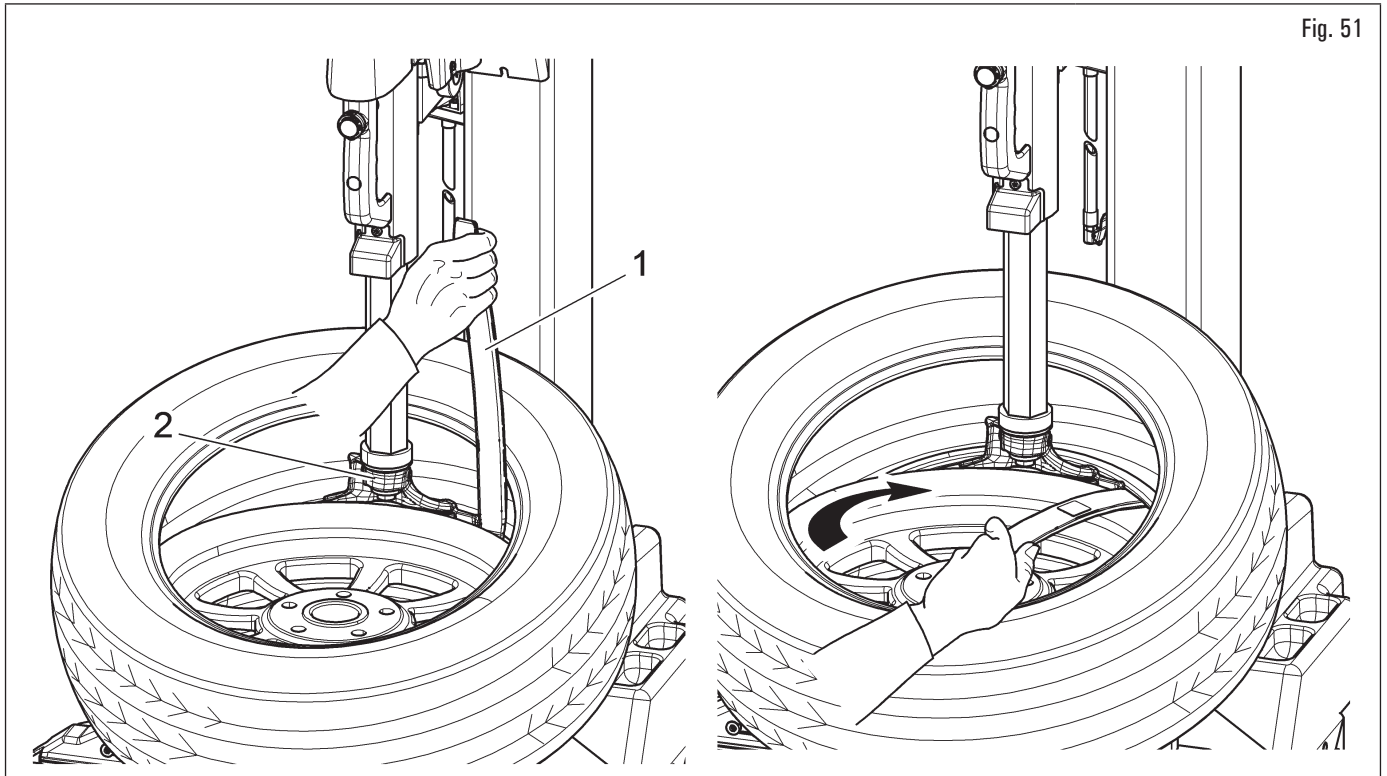

Fig. 51
7. with the help of the lever (Fig. 51 ref. 1) bring the second bead of the tyre on the nail of the toolhead (Fig. 51 ref. 2);
8. while keeping the lever (Fig. 51 ref. 1) in this position, turn the chuck clockwise until the tyre is completely out of the rim;